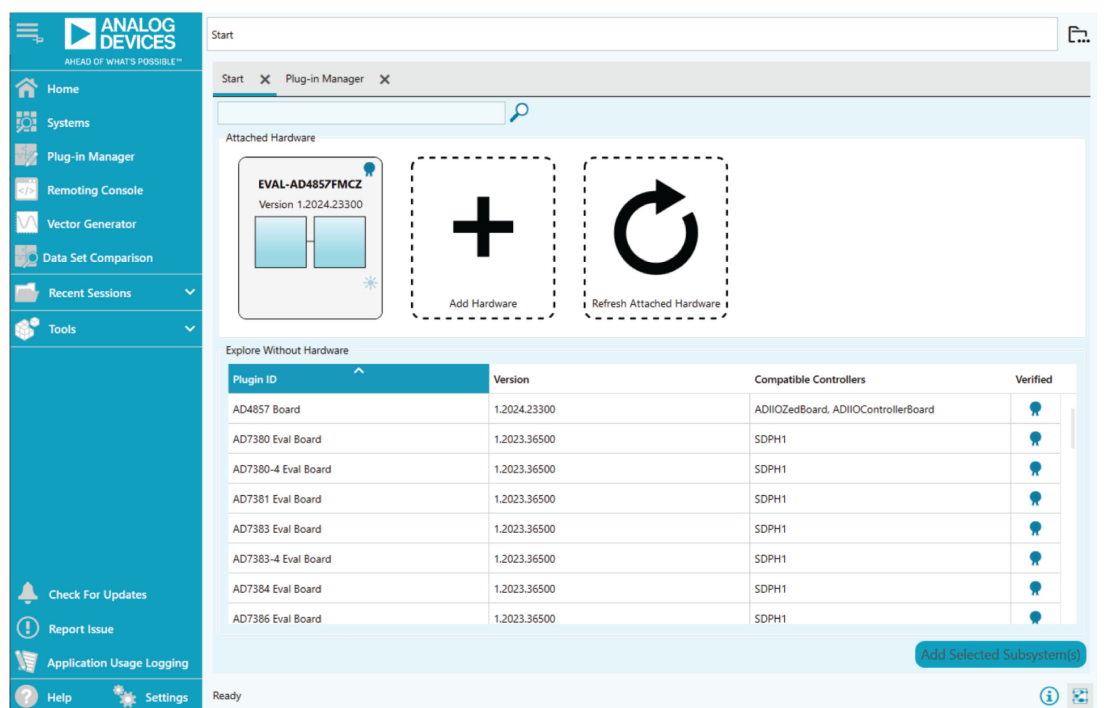

Figure 3. Attached Hardware View
7. Launch the **ACE Software**. The EVAL-AD4857FMCZ appears in the **ACE Start** in the **Attached Hardware** view, as shown in Figure 3.